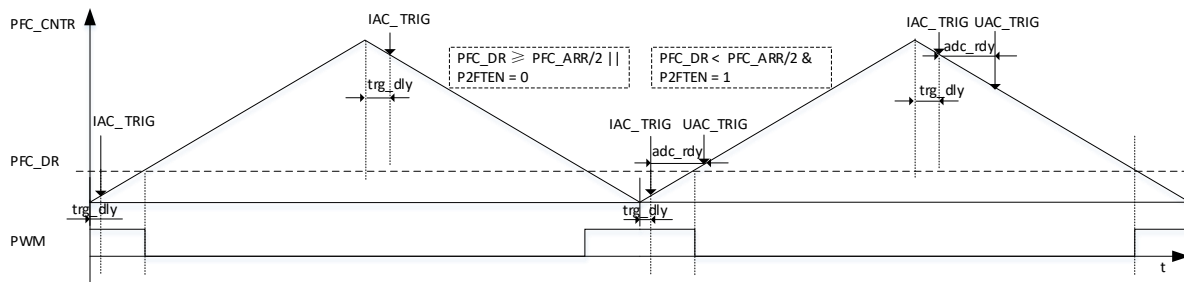

Figure 12-6 Diagram of PWM Output and IAC/UAC Sampling
- The sampling point is determined according to $\text{PFC\_CR2}[\text{P2FTEN}]$ and PFC_DR (as shown in Figure 12-6). If $\text{PFC\_CR2}[\text{P2FTEN}] = 0$ and $\text{PFC\_DR} < \text{PFC\_ARR}/2$, sampling is triggered when PFC_CNTR reaches the underflow point. If $\text{PFC\_CR2}[\text{P2FTEN}] = 1$ or $\text{PFC\_DR} \geq \text{PFC\_ARR}/2$, sampling is triggered when PFC_CNTR reaches the overflow point. The time delay for sampling is configurable by PFC_TRGDLY . The overflow point can be set at $\text{PFC\_TRGDLY} * 8$, and the underflow point at $(\text{PFC\_ARR} - \text{PFC\_TRGDLY} * 8)$.